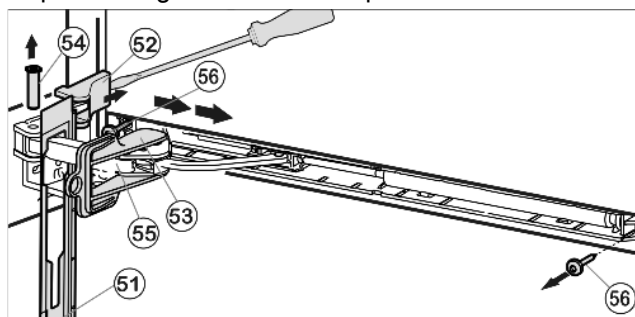

Fig. 19
- ▶ Push panel forward over the damper bracket Fig. 19 (55) in the direction of the appliance.
- ▶ Engage locking device (I) into place inside oblong hole.
- ▶ Lift off cover Fig. 19 (52) from the outside using a screwdriver and remove by pulling outwards.
- ▶ Push bolt Fig. 19 (54) out from below.
- ▶ Press damper bracket Fig. 19 (55) in the direction of the door.
- ▶ Remove panel Fig. 19 (51).
- ▶ Unscrew entire soft stop unit (2 x Torx 15) Fig. 19 (56).